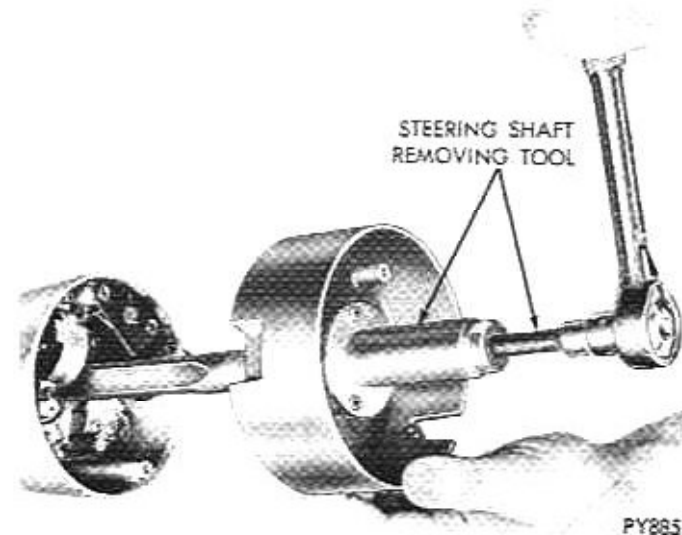

Fig. 8—Pressing Shaft Out of Bearing
(2) Install steering shaft remover C-4044 and press shaft out of bearing and remove bearing housing from shaft (Fig. 8).
(3) Remove bearing lower snap ring from shaft.
(4) Pry sleeve off steering shaft lock plate hub to expose pin.
(5) Install Tool C-4113 on steering shaft lock plate